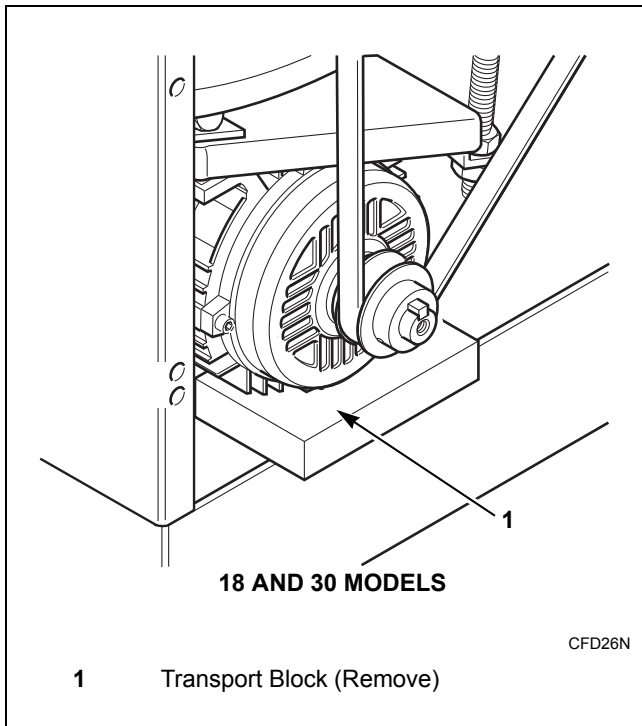

Figure 34
2. For 18 and 30 pound models, at rear of machine, lift at bottom of motor and remove transport block if present. Refer to *Figure 34*.